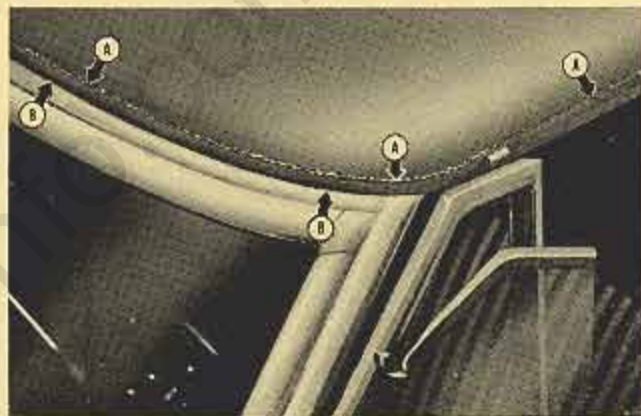
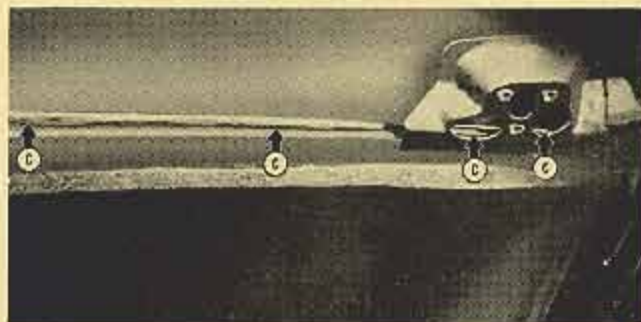

Fig. 1
Fig. 2
The leaks are generally located at the seal where the roof panel joins the upper side of the drip moulding (gutter). See "A," Fig. 1. Another leak may be located between the drip moulding and the upper windshield header above the chrome mouldings. See "B," Fig. 1. Also where the roof panel, drip moulding and windshield header is welded together and sealed as indicated by the arrows. See "C," Fig. 2.
2. Seal the edges of the roof panel and drip moulding where they are welded to the windshield header. Be sure to seal all the way across even back of the sun visor brackets. See "C," Fig. 2.
3. Remove any loose seal and reseal any necessary places, pin holes, etc., on the outside where the roof panel and drip moulding join as indicated by arrows "A," Fig. 1.
5. Work some sealer well into the opening between the drip moulding and the windshield header all the way across. This can be accomplished by forcing in the sealer "thinned with naphtha" with a gun or work the sealer in by hand just as it comes from the can or tube. See "B," Fig. 1.